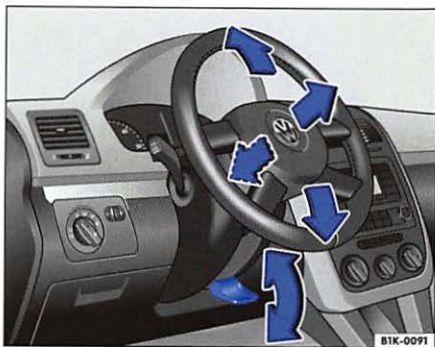

Fig. 22 Adjusting the steering wheel position
- Push the lever down ⇒ fig. 22 under the steering column ⇒ ⚠.